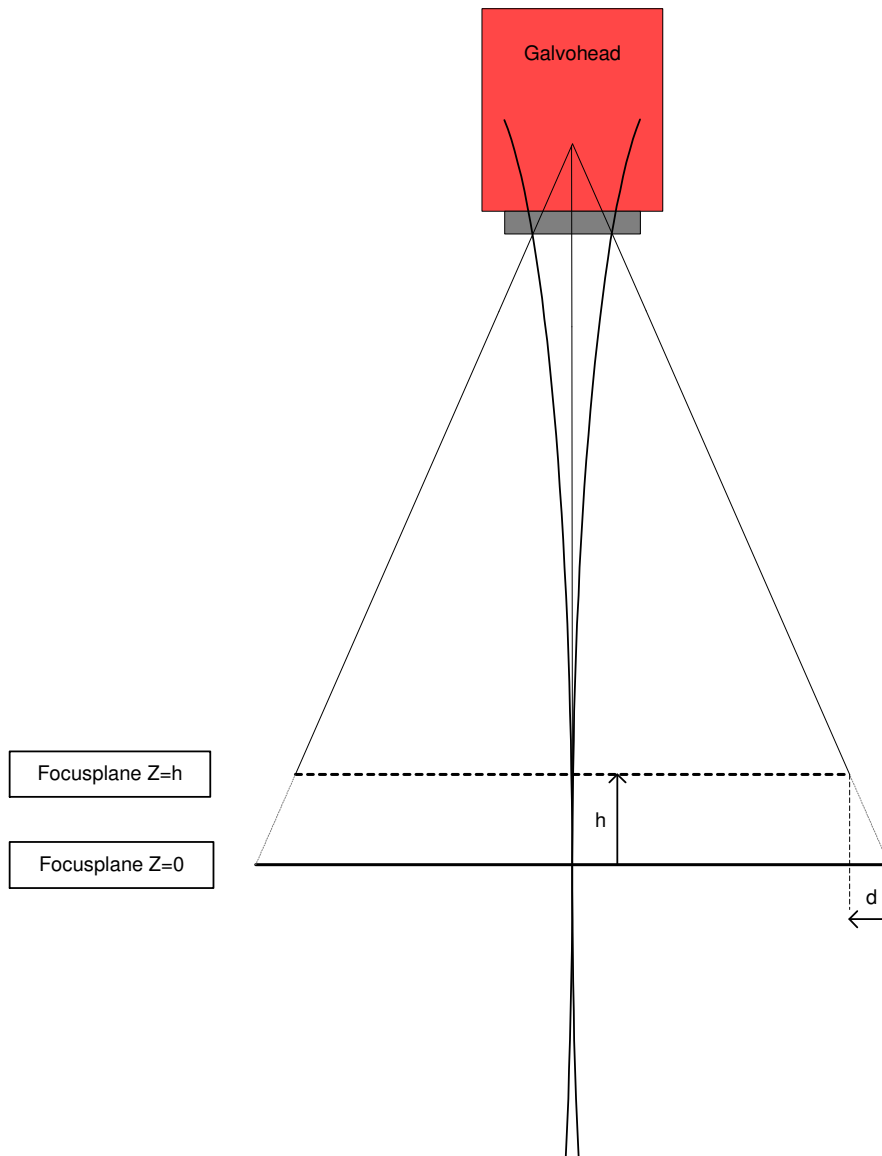

Figure 1 Moving marking plane up, decreases marking field
To use the FFM the “Enable FFM module” radio button has to be selected, independent of the use of the FFM within layers, VLM script or laser parameters. If “Enable focus correction” is selected, the FFM can’t be used. In this case there is a virtual Z-Height appearing in the layers of VLM. The name for this virtual Z-Height in the layer configuration dialog is Z-corr (Figure 1), this is the same column header as for the use with FFM. The virtual Z-Height is treated mathematically only, to transform the scaling and position of the marking objects, depending on this virtual Z-Height. For the focus correction mode the measurement and configuration of the apex angles have to be done the same way as for the FFM module mode (see 2.1).
- 8) The second square should be smaller than the first marked square. Measure X- and Y- size of the squares. Figure 1